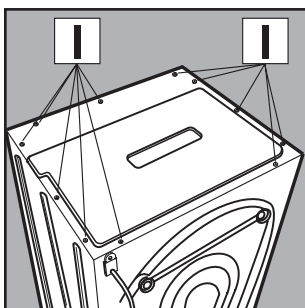

Fig. 13
2. Remove the cover by unscrewing screws I [fig 13].